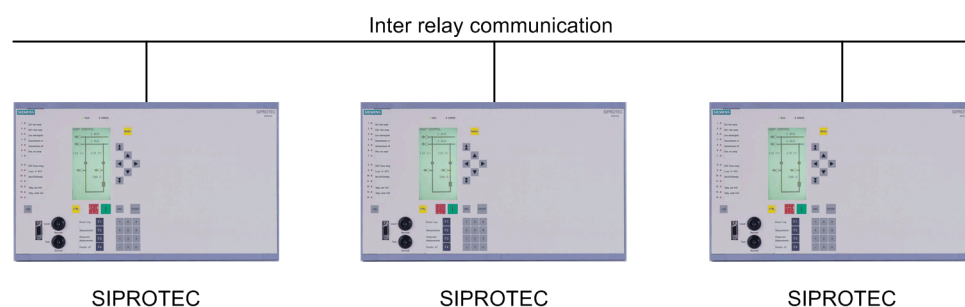

Figure 2-29 Switchgear interlocking system with 6MD66 and inter relay communication (IRC)
- Inter-relay communication IRC (see Section 2.12) can also be used for exchanging system interlocking information directly between devices. IRC nodes can only be SIPROTEC 6MD66x bay controllers. IRC is handled through a dedicated communication port (see Figure 2-29).